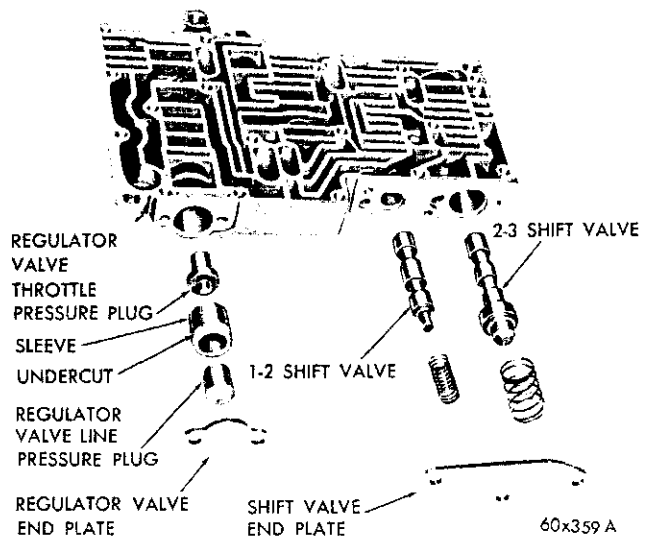

Fig. 61—Valve Body-Shift Valve Side (Disassembled)
(16) Remove the shift valve end plate (Fig. 61) and slide out the two springs and valves.
(17) Remove the regulator valve end plate. Slide the regulator valve line pressure plug, sleeve, and the regulator valve throttle pressure plug out of the valve body.
(5) Install the 1-2 and 2-3 shift valves and springs (Fig. 61). Install shift valve end plate and tighten the three retaining screws to 28 inch-pounds torque.
(6) Install the regulator valve throttle pressure plug, sleeve (under cut on sleeve toward end plate), and the line pressure plug (Fig. 61). Install the regulator valve end plate and tighten the two retaining screws to 28 inch-pounds torque.